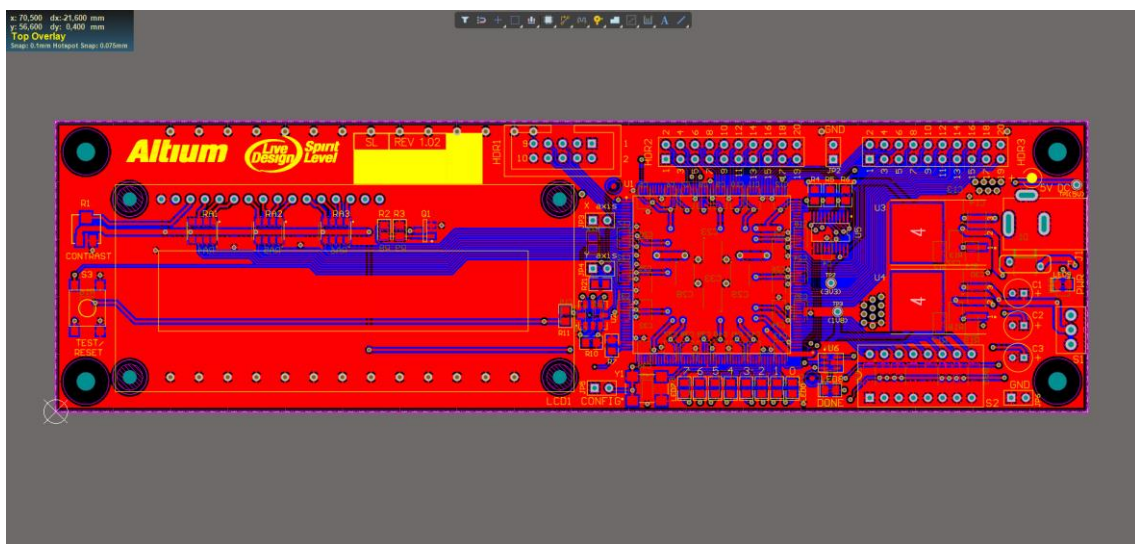
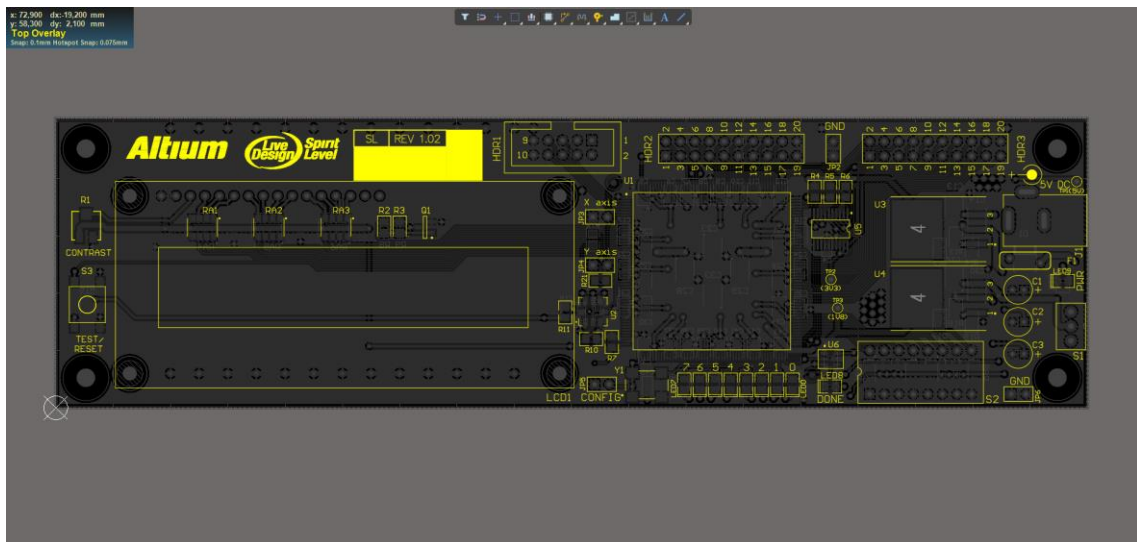
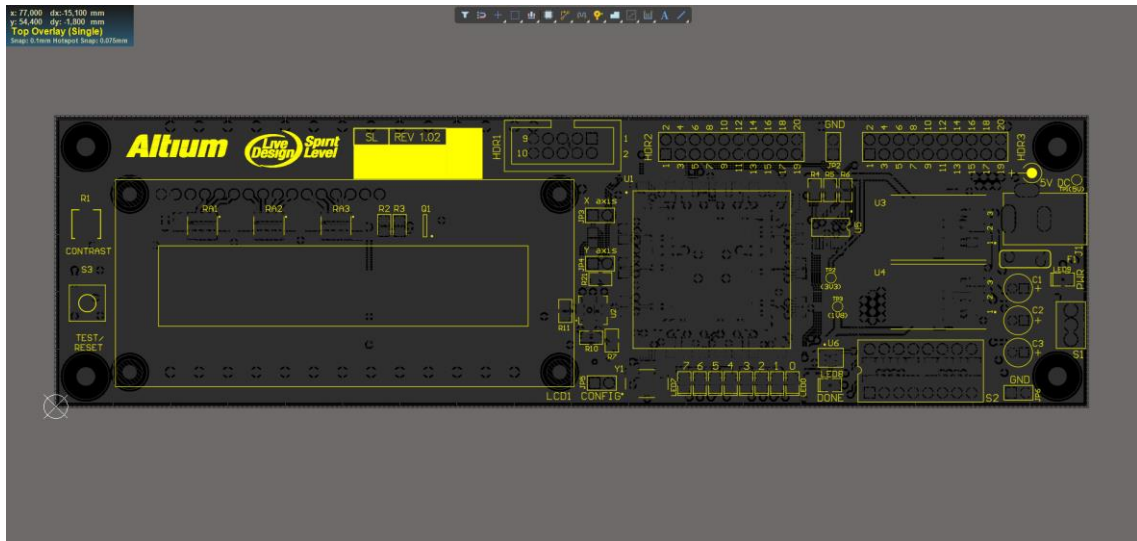
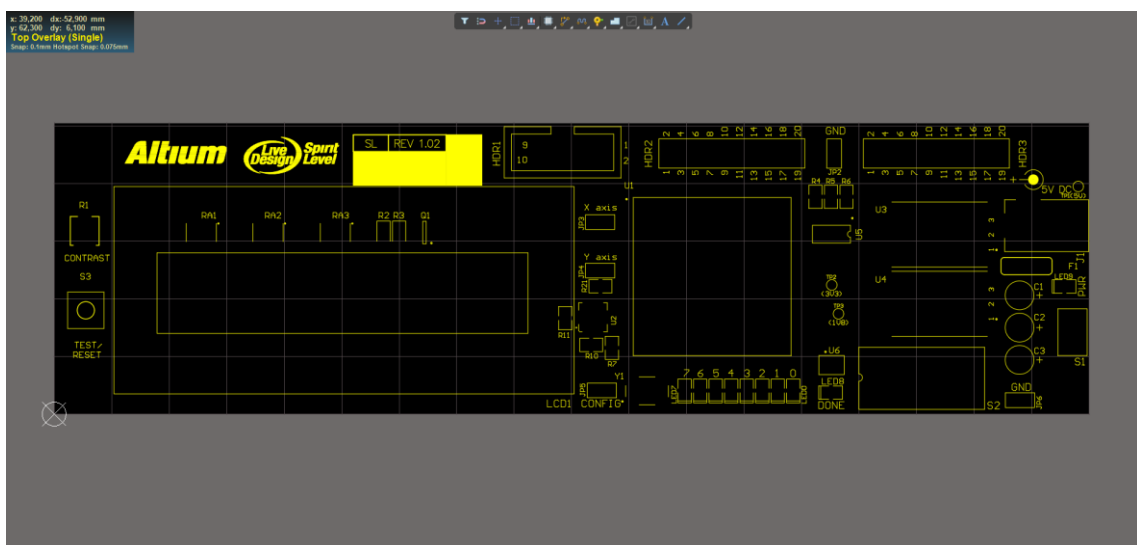

Figure 16. Regular 2D view
Figure 17. Single Layer Mode - Grayscale other layers
Figure 18. Single Layer Mode - Monochrome other layers
Figure 19. Single Layer Mode - Hide Other Layers
43. In the PCB document, toggle through the single layer modes by pressing **Shift + S**. Notice the differences between the modes as indicated in Figure 16, Figure 17, Figure 18, and Figure 19 on the following pages.